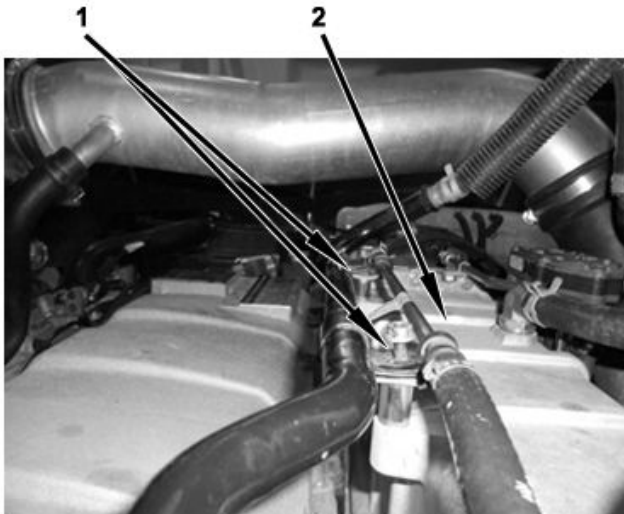

Figure 39. EGR Cooler.
20. Install cab heater supply tube support brackets (Figure 39, Item 1) to EGR cooler (Figure 39, Item 2) and torque to 13 lb-ft (17.6 N·m).